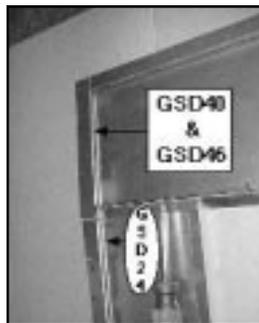

Figure 8 - Attach Surround Top
- 1) Carefully remove the surround parts from the shipping carton. Attach the surround top to each side with two screws provided. See Figure 8. Located on the surrounds is a bend tab used to cover the switch leads. For Model
GSD24, the bend tab is located on the top of the right surround side. For Models GSD40 and GSD46 the bend tab is located on the right side of the top surround. Use a pair of pliers to bend the tab forward. See Figure 8.